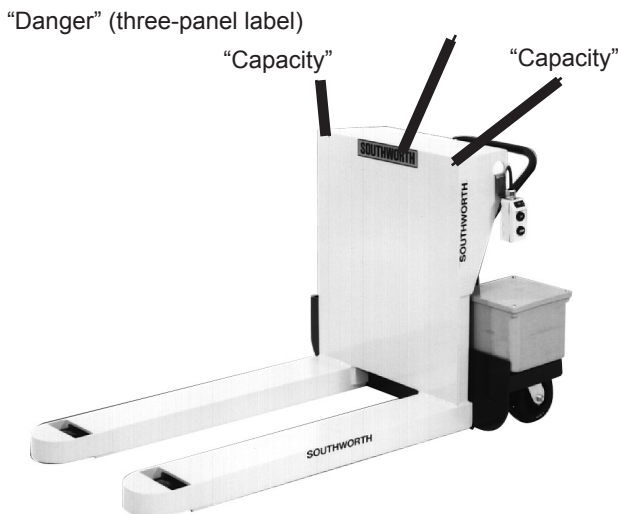
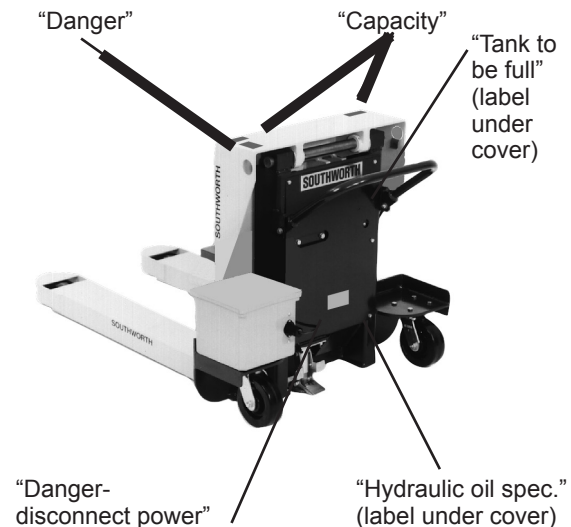

Fig. 1a Labels and Precautionary Markings (Front View)
Fig. 1b Labels and Precautionary Markings(Rear View)
5. Figure 1a and Fig. 1b show the safety labels on this unit. Check to be sure all of the labels are in place. For complete label locations, see page 8.